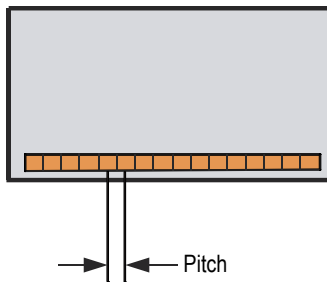

Figure 4-5 Probe-element pitch
- d) In the **Pitch** button, enter the distance between the centers of two adjacent probe elements. This distance is illustrated in Figure 4-5 on page 97.